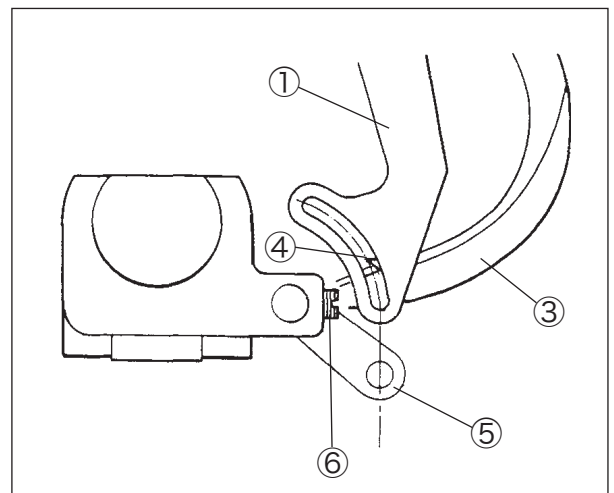

Fig. 6-16
- (1) Loosen the screw ⑥ of the top cover thread eyelet ⑤. (Fig. 6-16)
- (3) Set the eye of the top cover thread eyelet ⑤ on the extended line from the slot of the top cover thread guide ①. (Fig. 6-16)
- (4) Tighten the screw ⑥ securely. (Fig. 6-16)